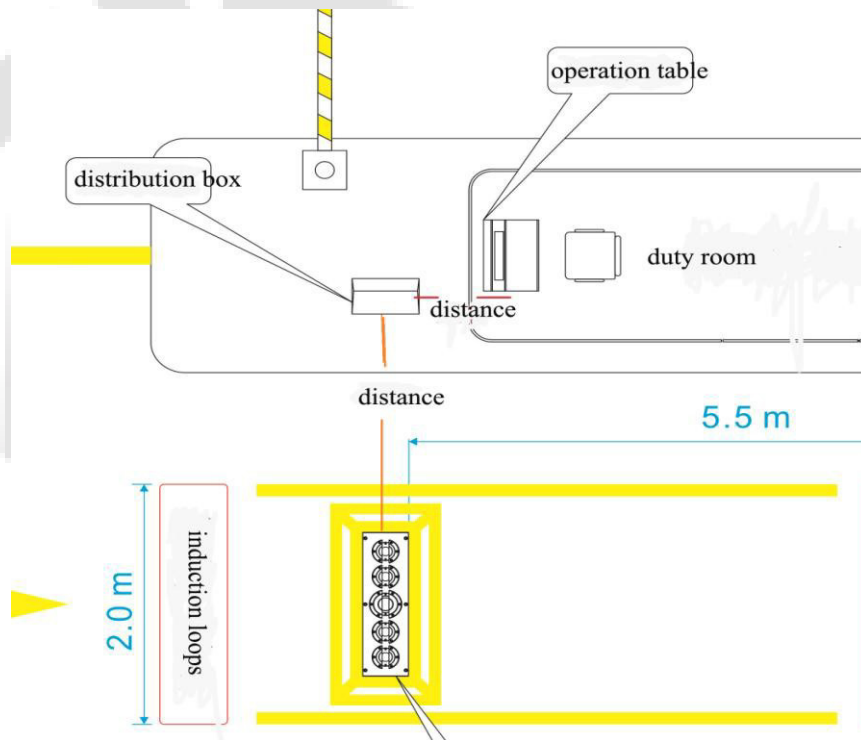

Figure 2-3
3. In general, install the distribution box near the passageways, distance between scanning units is less than 10m and at the same level. If the distribution box can't install near the passageways because of geographical conditions or other factors influence, the client should provide us the exactly installation location, and the distance between the distribution box and the scanning units, distance between distribution box and operation table. Refer to Figure 2-3.